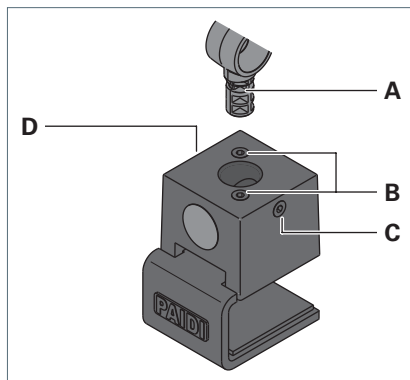

Fig. 1: Mounting.
- ▶ Fix the table clamp to the mounting surface using the screws **B**, see Fig. 1.